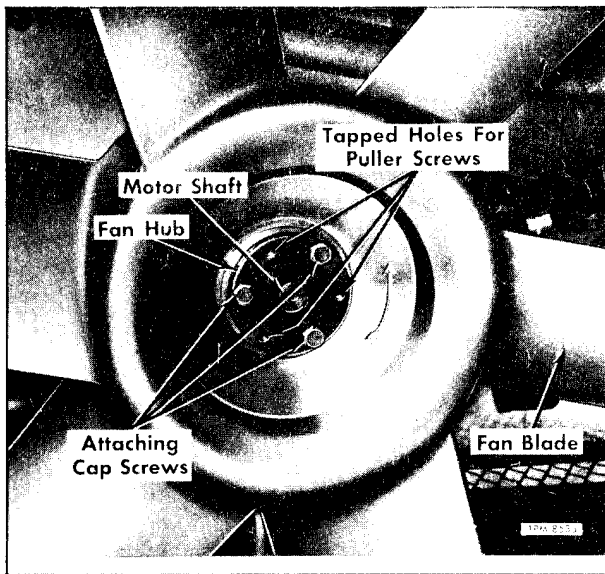

Figure 23—Condenser Fan Blade Installation
2. Loosen three cap screws which secure fan blade to fan hub (fig. 23). Screws should be loosened to relieve clamping effect of fan hub on motor shaft.
3. Install three long puller screws in tapped holes of fan hub shown in figure 23, then tighten screws evenly to separate fan from hub and to force hub from motor shaft. Remove hub and fan blade.